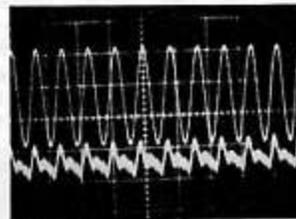

Fig. 1.
- Fig 1. Power amplifier only. 1kHz, 100W, 8Ω, 0.0035% distortion.